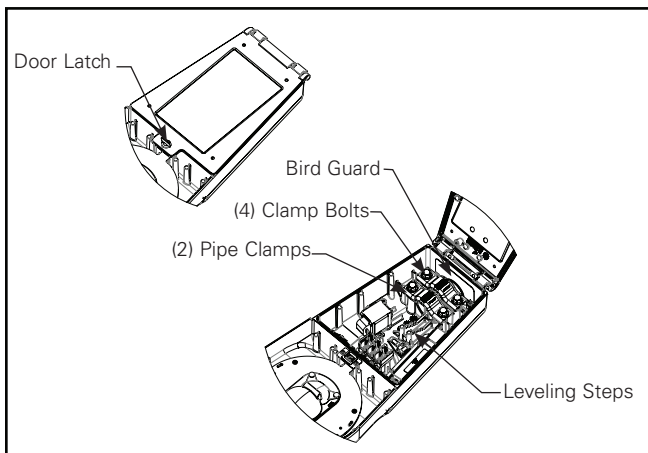

Figure 1.
1. With housing lying on a smooth, soft surface open the access door by rotating the door latch 1/4 turn. (Figure 1)
3. Using a 9/16" socket, loosen the pipe clamp bolts (Qty 2 single clamp, Qty 4 dual clamps) enough to allow mounting arm (not included) to slide onto leveling steps. (Figures 1 & 2)